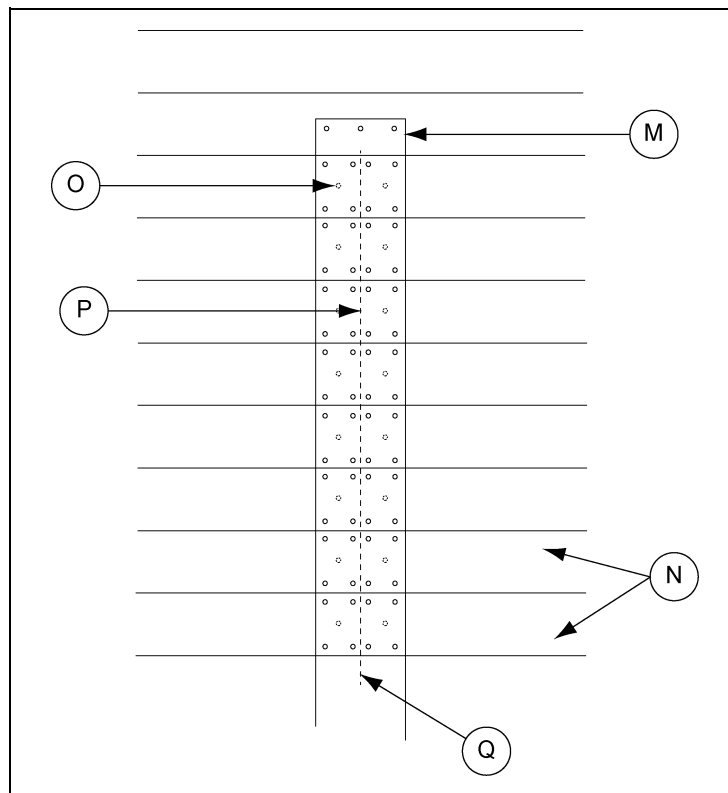

Figure 4D Oversplice Bolt Pattern for Small Grain Floors
2. Place the undersplice under the planks. Make sure the undersplice extends 3" across each plank. The splice should extend 3" under each plank. The splice should be screwed in place as shown in Figure 4D on Page 15.